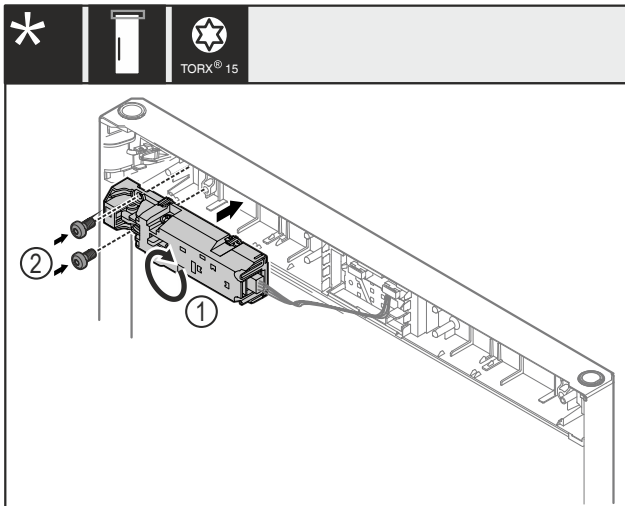

Fig. 22
- ▶ Turn the remote lock Fig. 22 (1) by 180° and attach it to the opposite side.
- ▶ Attach the remote lock Fig. 22 (1) with screws Fig. 22 (2).